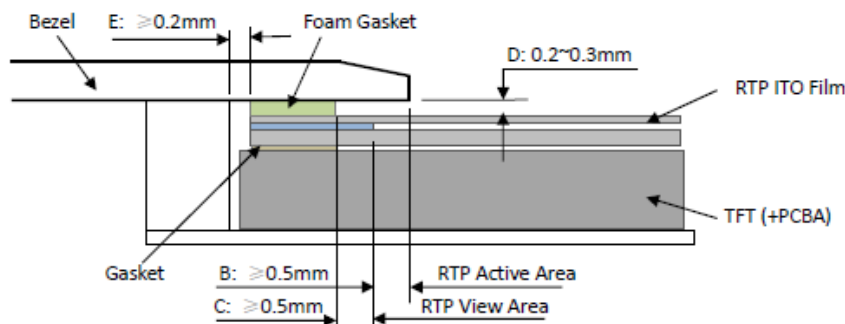

Figure 4
- It should bezel touching the RTP Active Area (A.A.) to prevent abnormal touch. It should left gap $D=0.2\sim0.3\text{mm}$ in between. (Figure 4)
- Outer bezel design should take care about the area outside the A.A. Those areas contain circuit wires which is having different thickness. Touching those areas could de-form the ITO film. As a result bezel the ITO film be damaged and shorten its lifetime. It is suggested to protect those areas with gasket (between the bezel and RTP). The suggested figures are $B\geq0.50\text{mm}$; $C\geq0.50\text{mm}$. (Figure 4)
- The bezel side wall should keep space $E=0.2\sim0.3\text{mm}$ from the RTP. (Figure 4)
- 为避免面框直接压在动作区 (A. A.) 上造成误动作，面框与电阻触摸屏 (RTP) 之间应留有一定的空隙 $D=0.2\sim0.3\text{mm}$ 之间. (附图 4)
- 设计面框时，要注意用面框保护触摸屏四周的非保证操作区域，因为布线区域在此处形成一台阶，在此区域附近操作时 ITO Film 变形较大，容易导致 ITO 损坏而降低寿命。为保护 RTP 和避免误操作，在 RTP 与面框之间垫缓冲物 (Gasket)，我们建议设计面框应覆盖动作区的边缘，面框边缘到 V. A. 区的距离 $B\geq0.50\text{mm}$ ；垫圈内边缘到 V. A. 区的距离 $C\geq0.50\text{mm}$. (附图 4)
- 在设计面框与 RTP 组装时，应考虑到面框内侧与 RTP 外侧的间距 $E\geq0.2\text{mm}$. (附图 4)